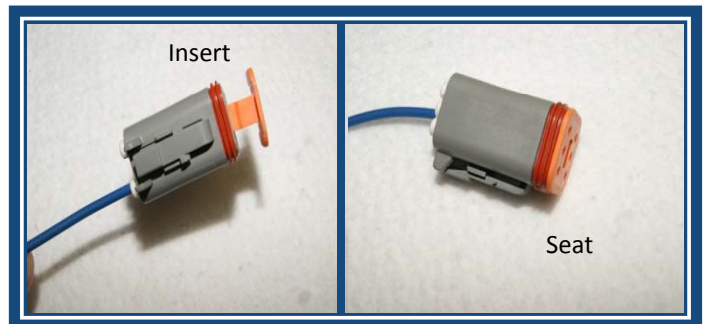

Figure 8
**Step 8:** Once the wire is inserted into the connector the orange lock can be inserted. Make sure that the lock is properly seated. (See Figure 8)